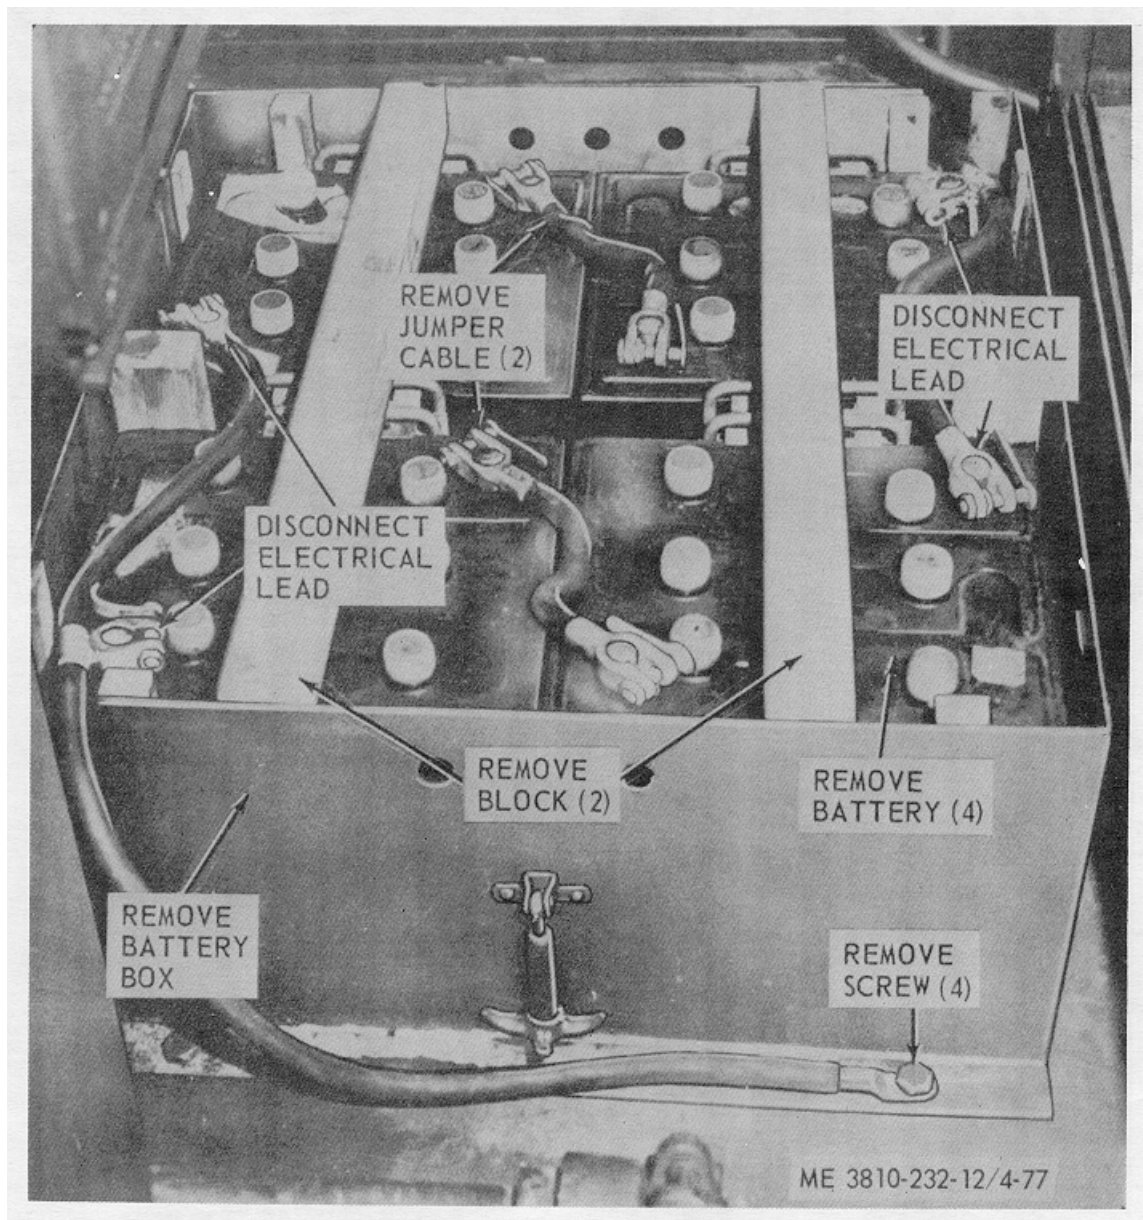

Figure 4-77. Crane batteries, cables and box, removal and installation.
(1) Remove battery box cover.
(2) Remove cables, batteries, and box as illustrated in figure 4-77.
(1) Install crane battery box, batteries and cables as illustrated in figure 4-77.
(2) Install battery box cover.